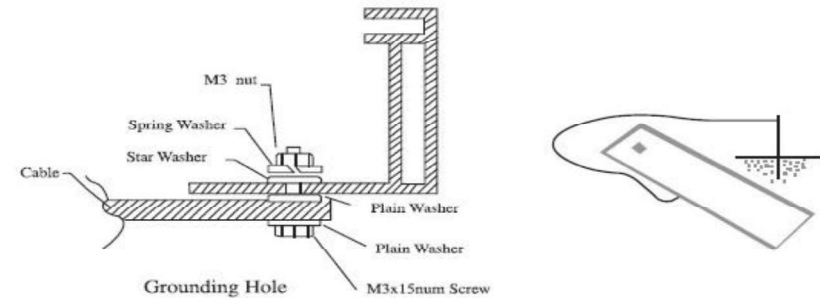

Figure 9: The graph of Grounding
- All module frames and mounting racks must be properly grounded in accordance with local and national electrical codes. Attach the equipment grounding conductor to the module frame using the hole and hardware provided. Note that a stainless steel star washer is used between the ground wire and module frame (see Figure 9 below). This washer is used to avoid corrosion due to dissimilar metals. Tighten the screw securely.